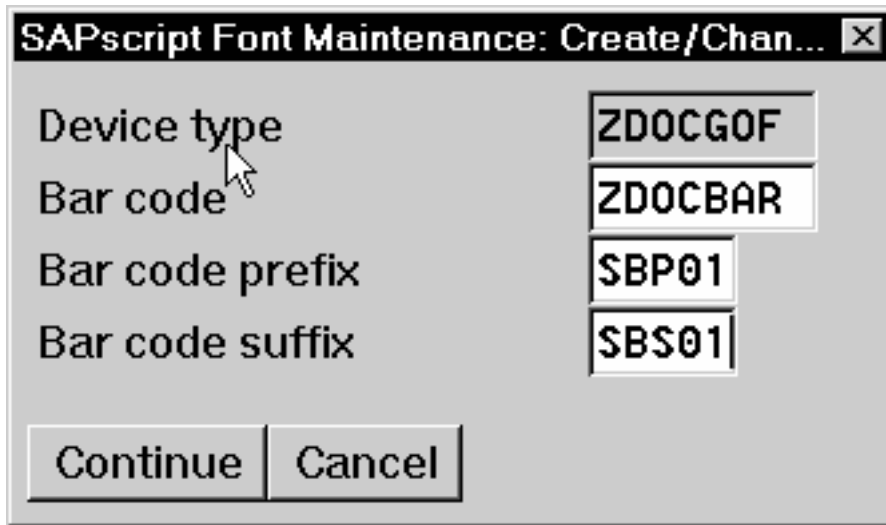

Figure 65. SAPScript Font Maintenance (Create/Change) window
7. From the **Create/Change...** window displayed below, select the intended bar code (ZDOCG0F) and fill in the remaining information as shown in Figure 65 on page 147: